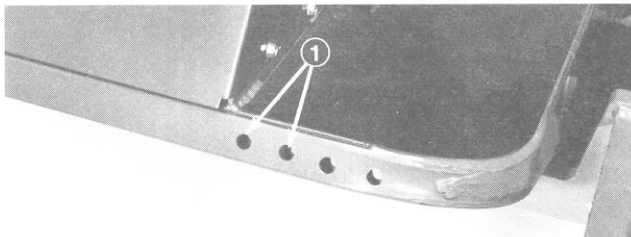

Figure 6
1. Align mounting holes in spring bracket with inside mounting holes in front frame (Fig. 6).